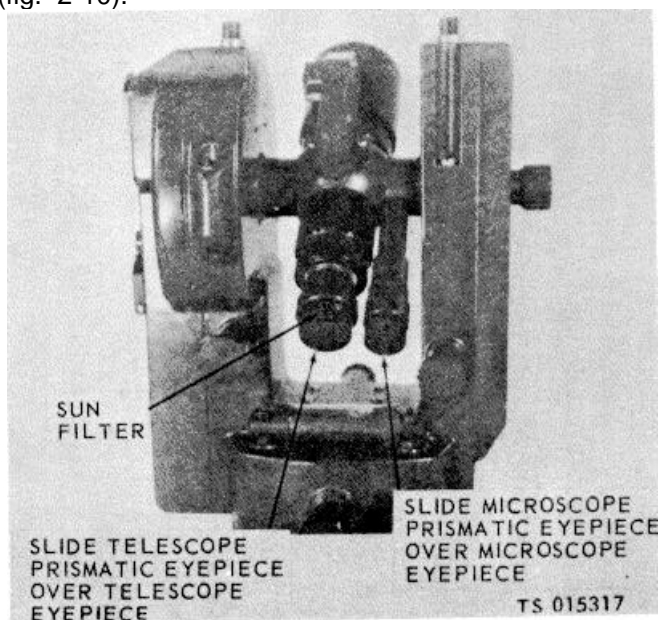

Figure 2-10. Prismatic eyepiece, installation.
- (1) Remove prismatic eyepieces from accessory case.
- (2) Refer to figure 2-10 and install prismatic eyepieces.
- (1) When sighting on the sun with the prismatic eyepiece, position sun filter over eyepiece (fig. 2-10).